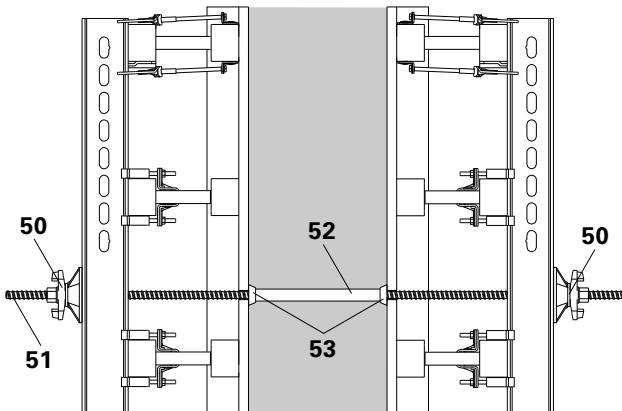

Fig. B8.01
1. Screw on Wingnut Pivot Plate DW 15 (50) to tie rod and insert pre-mounted tir rod (51) from the outside through the primary formwork.
2. Push spacer tube (52) with cone (53) onto the DW 15 tie rod (51).
4. Push DW 15 tie rod (51) through the closing formwork and screw on Wingnut Pivot Plate DW 15 (50) and tighten. (Fig. B8.01)